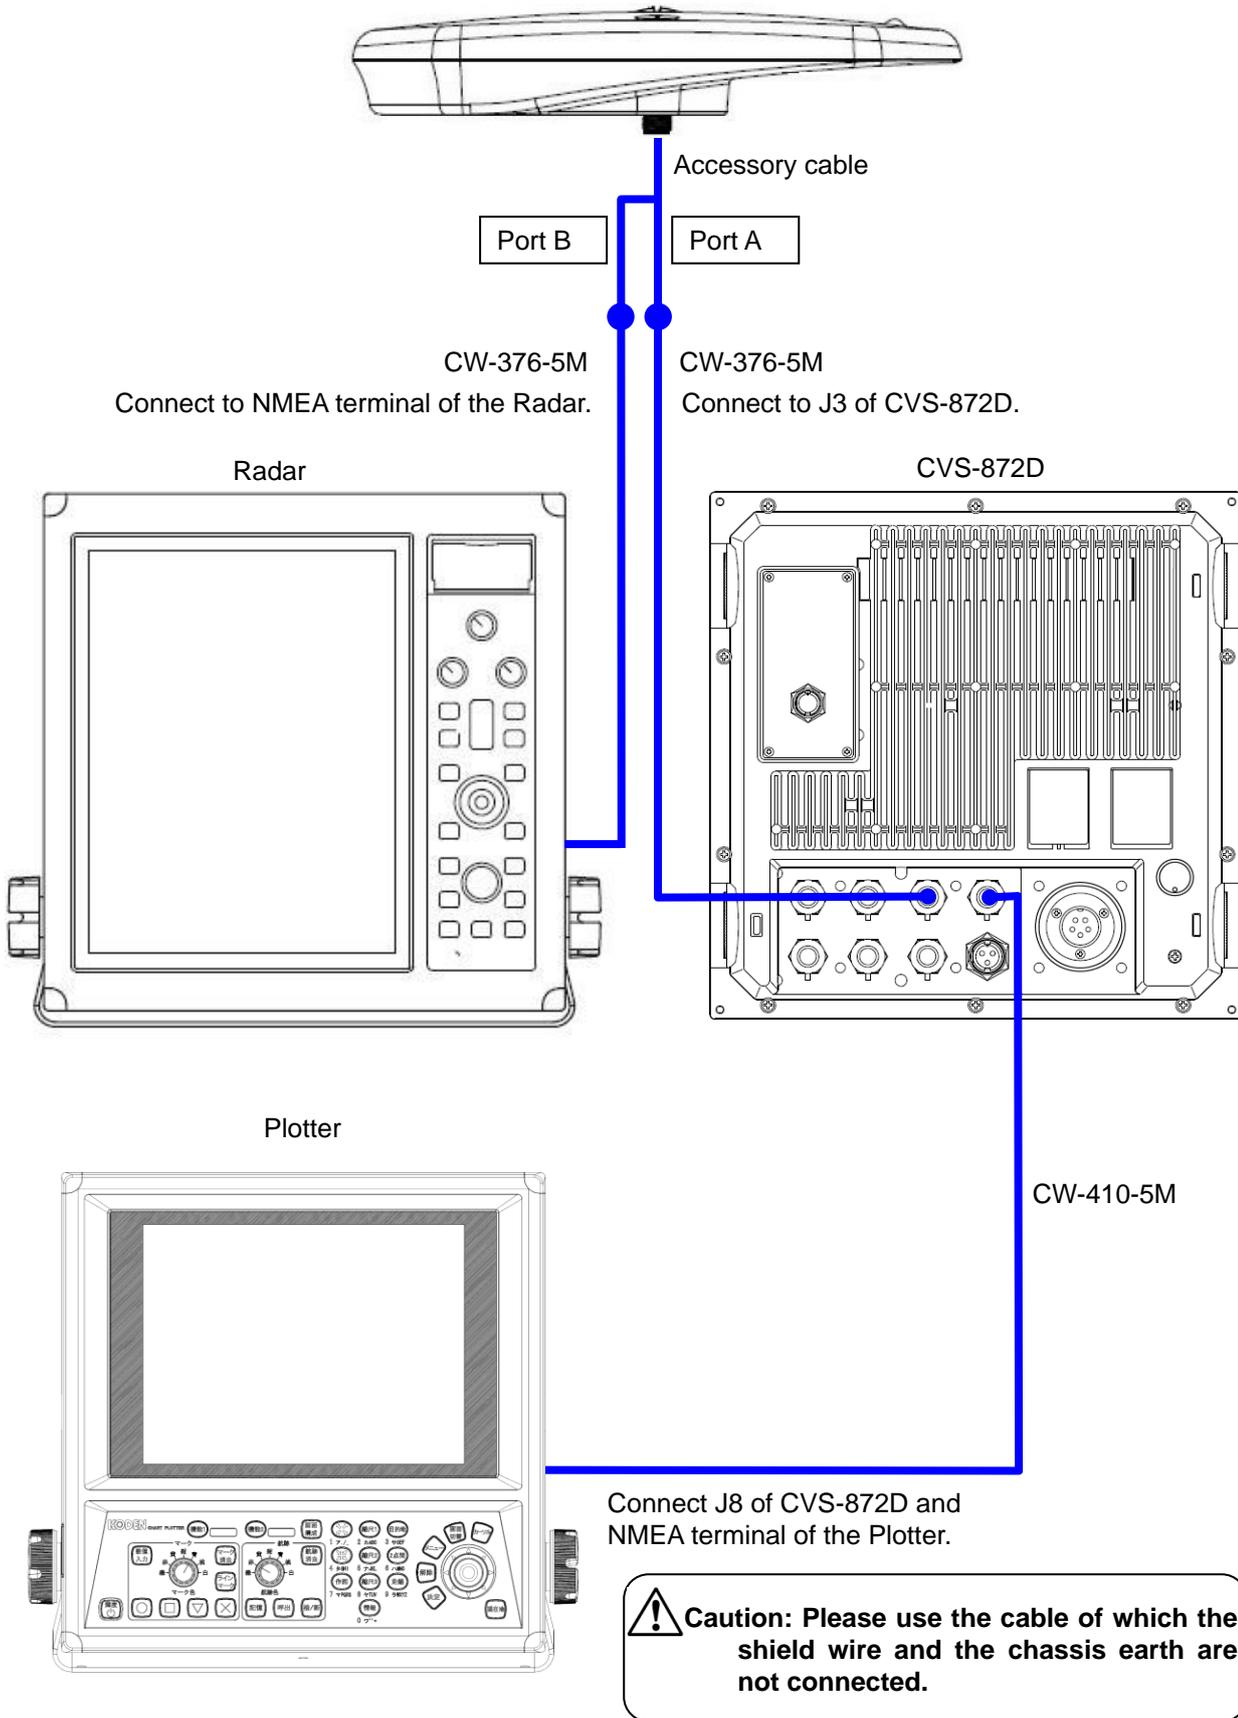
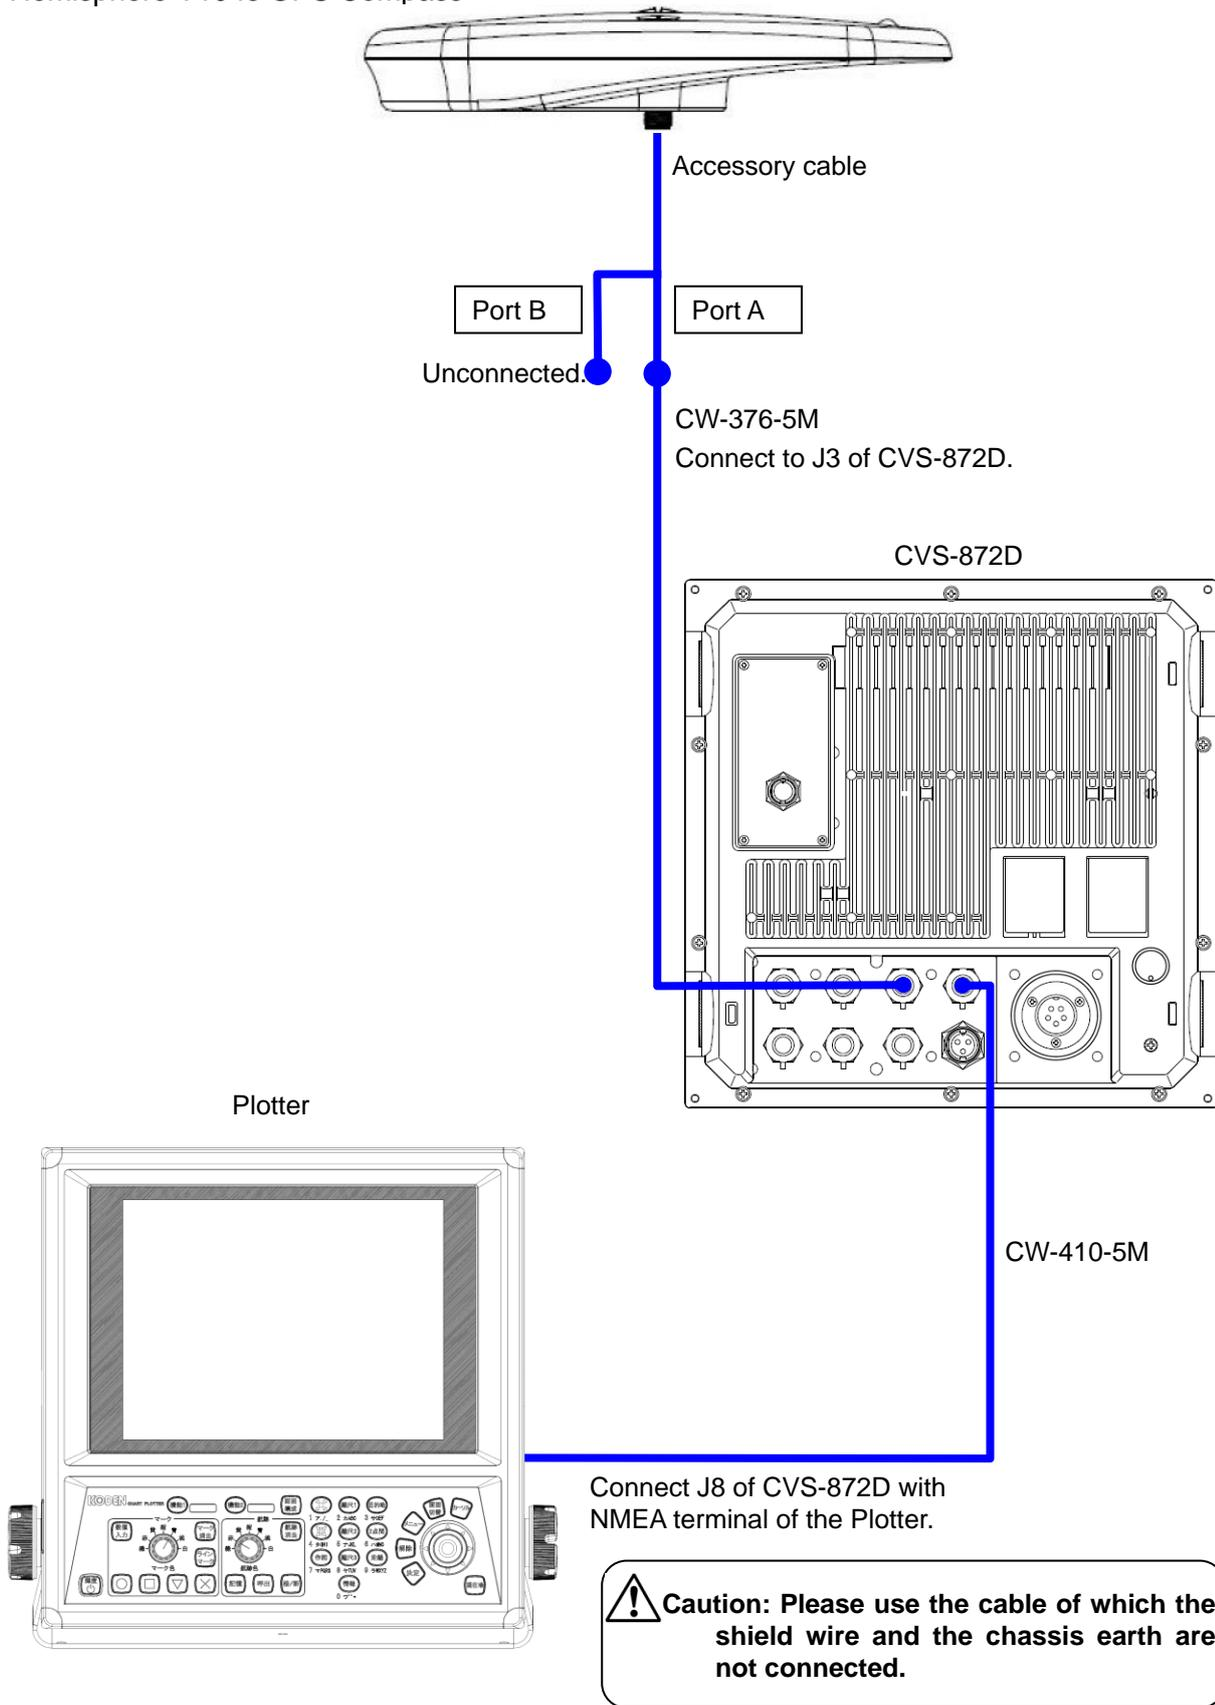

Fig. 1.62 The general connection chart 4
Fig. 1.64 The general connection chart 6
- 3) Connect CW-376-5M to NMEA terminal of Radar after soldering with Port C when connecting with Radar as GPS compass. Refer to **“Fig. 1.62 The general connection chart 4”**.
In the other cases, connection with Port C is not necessary. Refer to **“Fig. 1.64 The general connection chart 6”**.
- 4) Refer to **“Fig. 1.62 The general connection chart 4 to Fig. 1.64 The general connection chart 6”**, connect other equipment to communicate NMEA with the terminal J8 of CVS-872D.